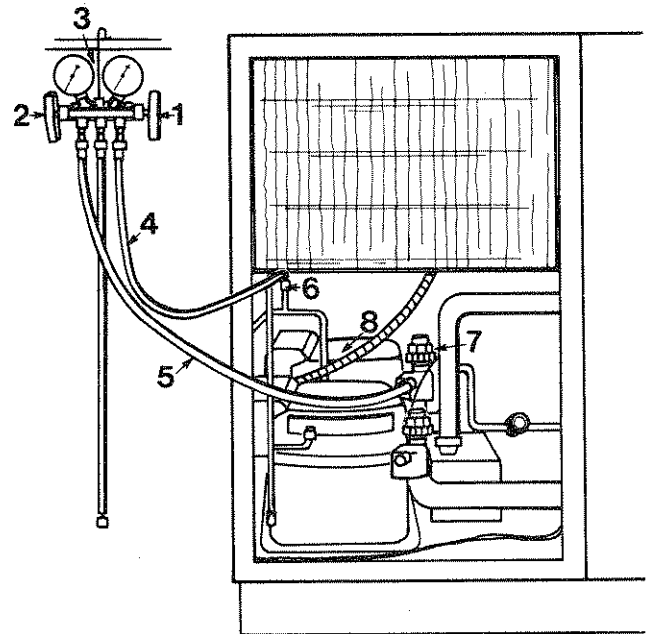

FIGURE C7
3. Remove the cap from the discharge valve (6) of the R-13 compressor (8). See Figure C7.
4. Close the two valves (1 and 2) on the refrigeration gauge manifold (3). See Figure C7.
5. Tightly connect the discharge gauge hose (4) to the refrigeration gauge manifold and to the discharge valve (6). See Figure C7.
6. Turn the suction service valve (7) on the compressor all the way counterclockwise (backseated).
7. Tightly connect the suction gauge hose (5) to the refrigeration gauge manifold and to the suction service valve (7).